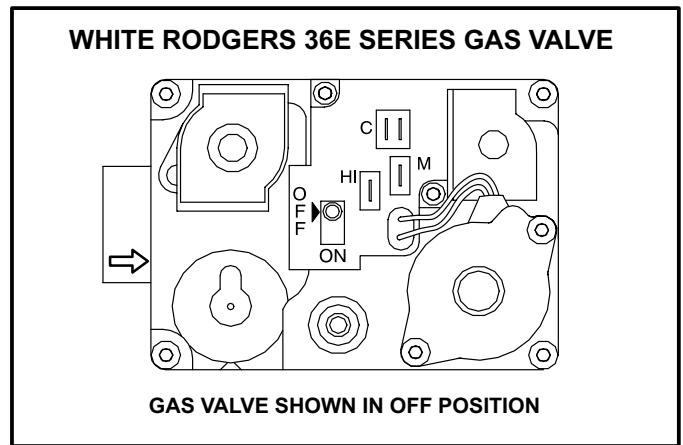

FIGURE 3
Operating the Gas Valve (Figures 3 and 4)
- 6 - *White Rodgers 36E Gas Valve* - Switch gas valve lever to **OFF**. See figure 3.
- 8 - *White Rodgers 36E Gas Valve* - Switch gas valve lever to **ON**. See figure 3.